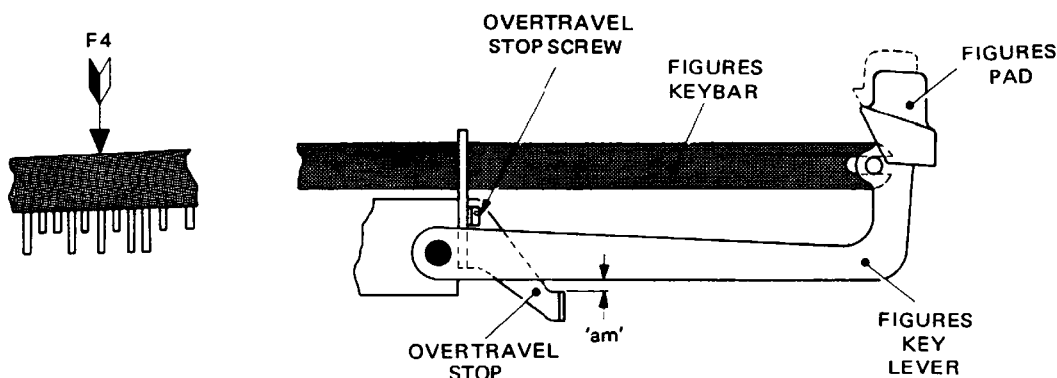

Fig. 4.43 OVERTRAVEL STOP (LEFT-HAND SIDE VIEW)
- 46.1 Depress the FIGURES keybar at F4, Fig. 4.43, as far as it can go. Check that there is now a clearance of 0.025–0.035 inch (dimension 'am') between the figures key lever and the overtravel stop.